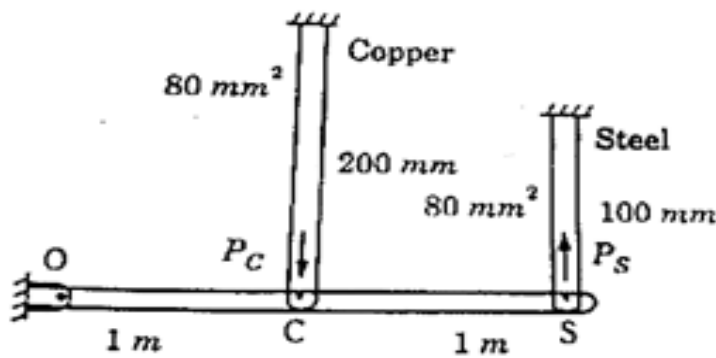

Figure 3(a)
- 3 a. A horizontal bar hinged at one of its ends is supported by two vertical bars as shown in Fig. 3(a). If the temperature of vertical bars is increased by 40°C. Determine the forces and deformations induced in them. Take $\alpha_c = 18 \times 10^{-6} / ^\circ\text{C}$, $\alpha_s = 12 \times 10^{-6} / ^\circ\text{C}$, $E_C = 100$ GPa and $E_S = 200$ GPa. 10